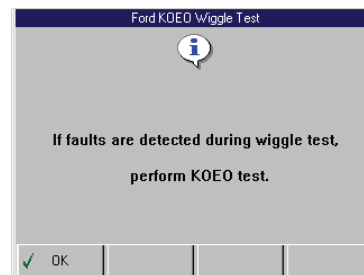

Figure 6.18: Wiggle Test Instruction Screen
- 5 Press the **ENTER** key. This displays an instruction screen (Figure 6.18 on page 33).